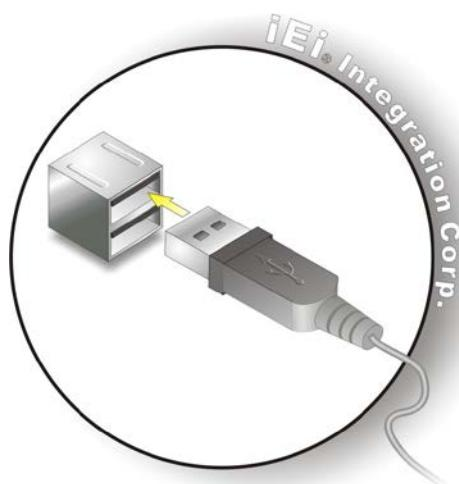

Figure 3-8: USB Device Connection
Step 2: Align the connectors. Align the USB device connector with one of the connectors on the AFL3-W07A-BT. See Figure 3-8.